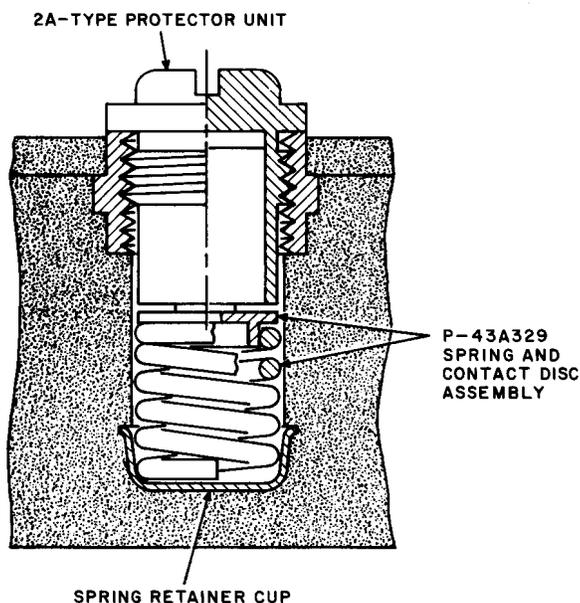

Fig. 12—Cast Well Construction
4.02 Figure 12 illustrates the 2A protector and spring and contact disc assembly in cast well design apparatus.